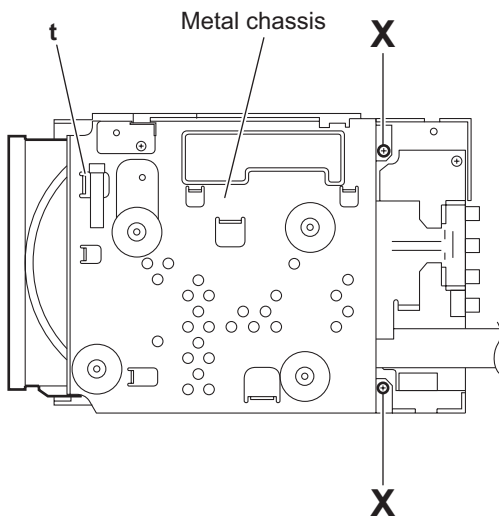

Fig.26
- From the top side of the main body, remove the two screws **X** and take out the metal chassis. (See Fig.26.)